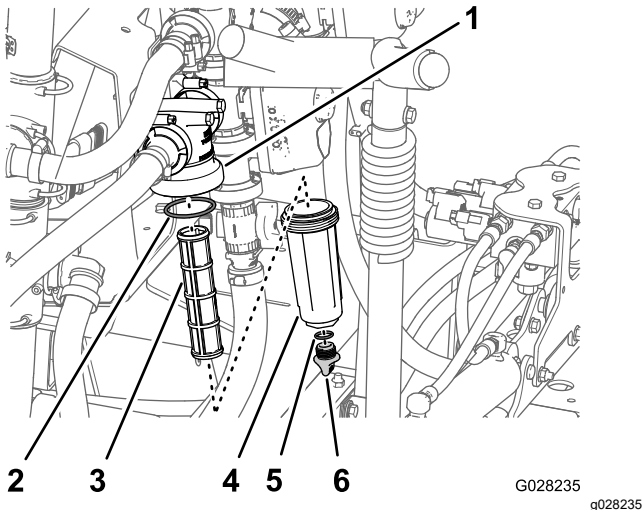

Figure 56
2. Align a drain pan under the pressure filter (Figure 56).
3. Rotate the drain cap counterclockwise and remove it from the bowl of the pressure filter (Figure 56).
4. Rotate the bowl counterclockwise and remove the filter head (Figure 56).
5. Remove the pressure filter element (Figure 56).
7. Check the gasket for the drain plug (located inside the bowl) and the gasket for bowl (located inside the filter head) for damage and wear (Figure 56).
8. Install the pressure filter element into the filter head (Figure 56).
9. Install the bowl onto the filter head, and tighten by hand (Figure 56).
10. Assemble the drain cap onto the fitting at the bottom of the bowl, and tighten the cap by hand (Figure 56).